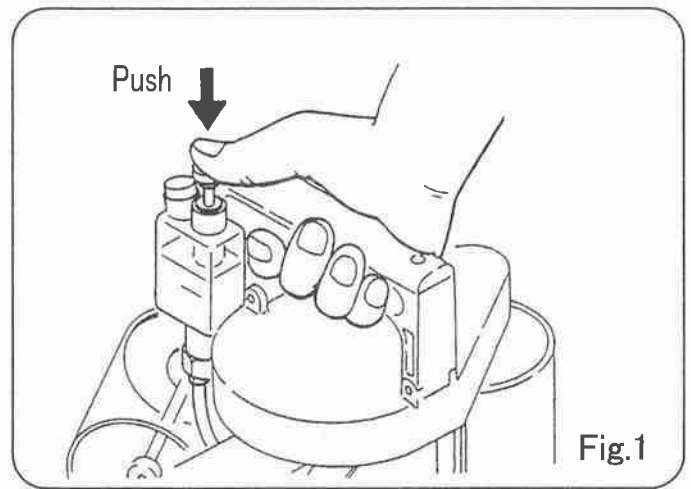

Fig.1
- Confirm that the machine has been lubricated as per Fig.1 in the manual.
1.Oiling (Fig.1)